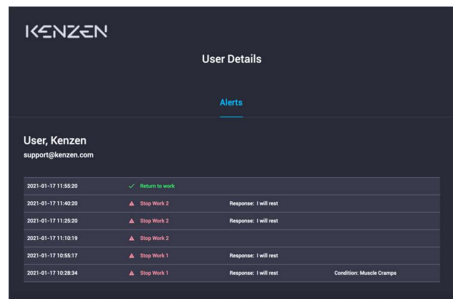

Figure 28: Individual team member alert details
5. Select a team member to view individual alert details (Figure 28).